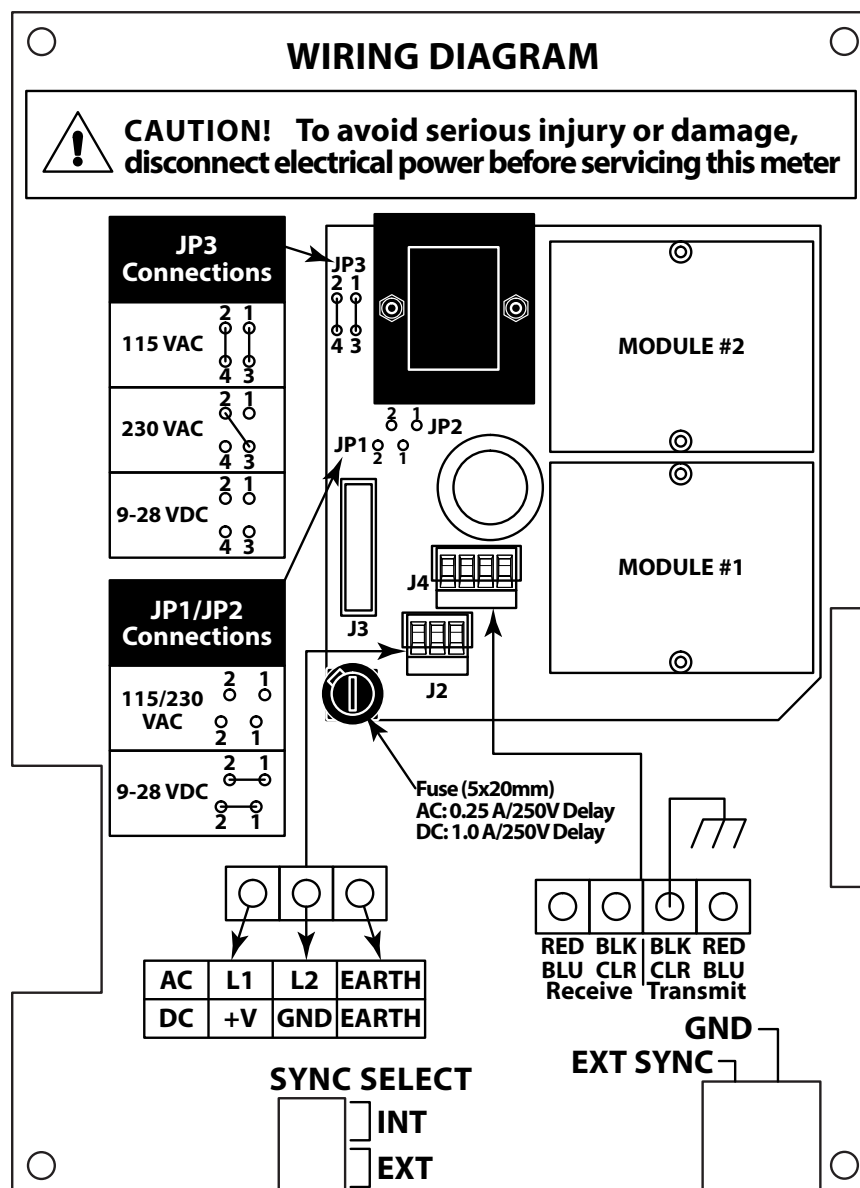
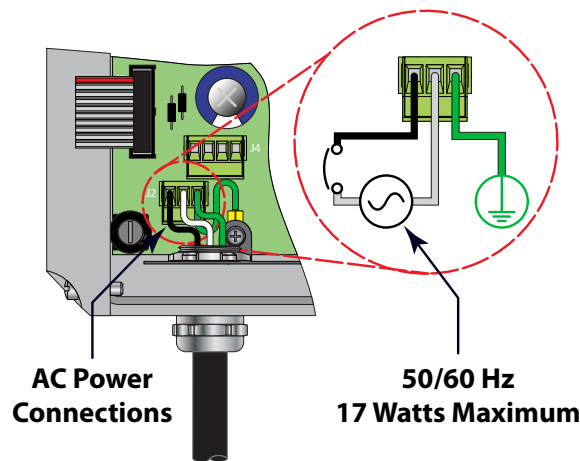

Figure 15: DFX flow meter wiring diagram
Figure 16: DFX flow meter AC power connection
Connect power to the screw terminal block marked J2 through the conduit hole on the left side of the enclosure. See *Figure 15* for AC power supplies and *Figure 16* for DC power supplies. Use wiring practices that conform to local and national codes (for example, The National Electric Code Handbook in the U.S.).
1. Verify that the jumpers at JP3 are properly oriented for the power supply. See *Figure 15*.
3. Connect L1, L2 and EARTH to the terminals referenced in *Figure 15*. Phase and neutral connections to L1 and L2 are not polarized. Do not operate without an earth ground connection.
4. See *Figure 16* for AC connection schematic. Wire gauges up to 14 AWG can be accommodated in the DFX flow meter's terminal blocks.
1. Verify that the jumpers are properly placed. See the wiring diagram inside the door of the DFX flow meter enclosure or see *Figure 15*. The jumpers at JP3 should not be present and the jumpers at JP1 and JP2 should be in place.
2. Daisy-chain connect the **EXT**ernal **SYN**chronization and GND terminal blocks together between the meters to be synchronized, using the twisted-pair cable described previously. The terminal block is located on the circuit board that is mounted on the door of the meter's monitor. See *Figure 15 on page 21* or the Wiring Diagram inside the door of the DFX monitor.